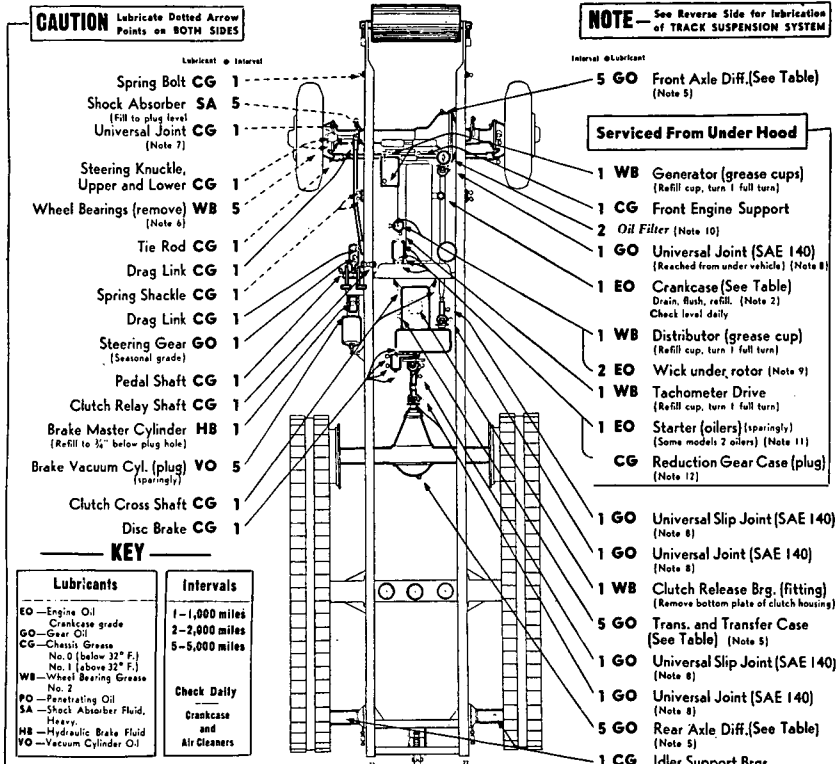

FIGURE 2.—Lubrication chart.
9. Schedules (fig. 2① and ②).—*a. Records.*—A complete record of lubrication will be kept for every vehicle. Responsible personnel will execute a check sheet at regular intervals to indicate the actual mileage and date at which each component receives such attention as prescribed.